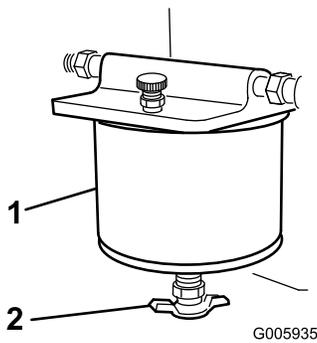

Figure 12
3. Turn the drain valve until the water runs out of the filter (Figure 12).